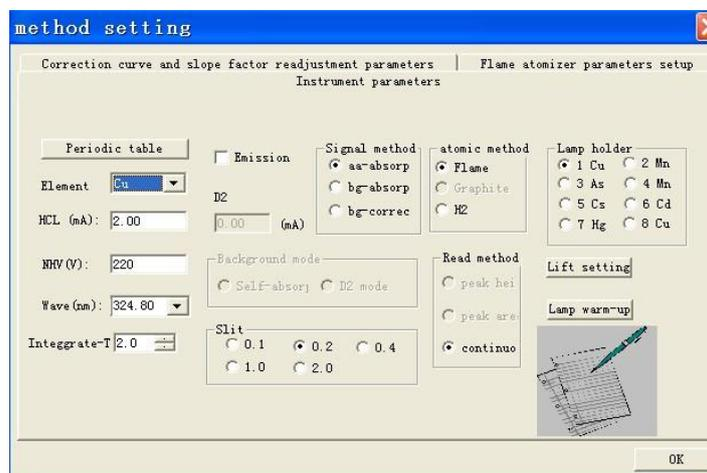

Figure 4-43a
2. Press the "More parameters" button in the dialog to enter the "Instrument parameters" screen. For example, an element Cu is selected; the wavelength is 324.8 nm; the negative high voltage is 200 V; the current is 2.0 mA; and the slit is 0.2 nm. See Figure 4-43a.